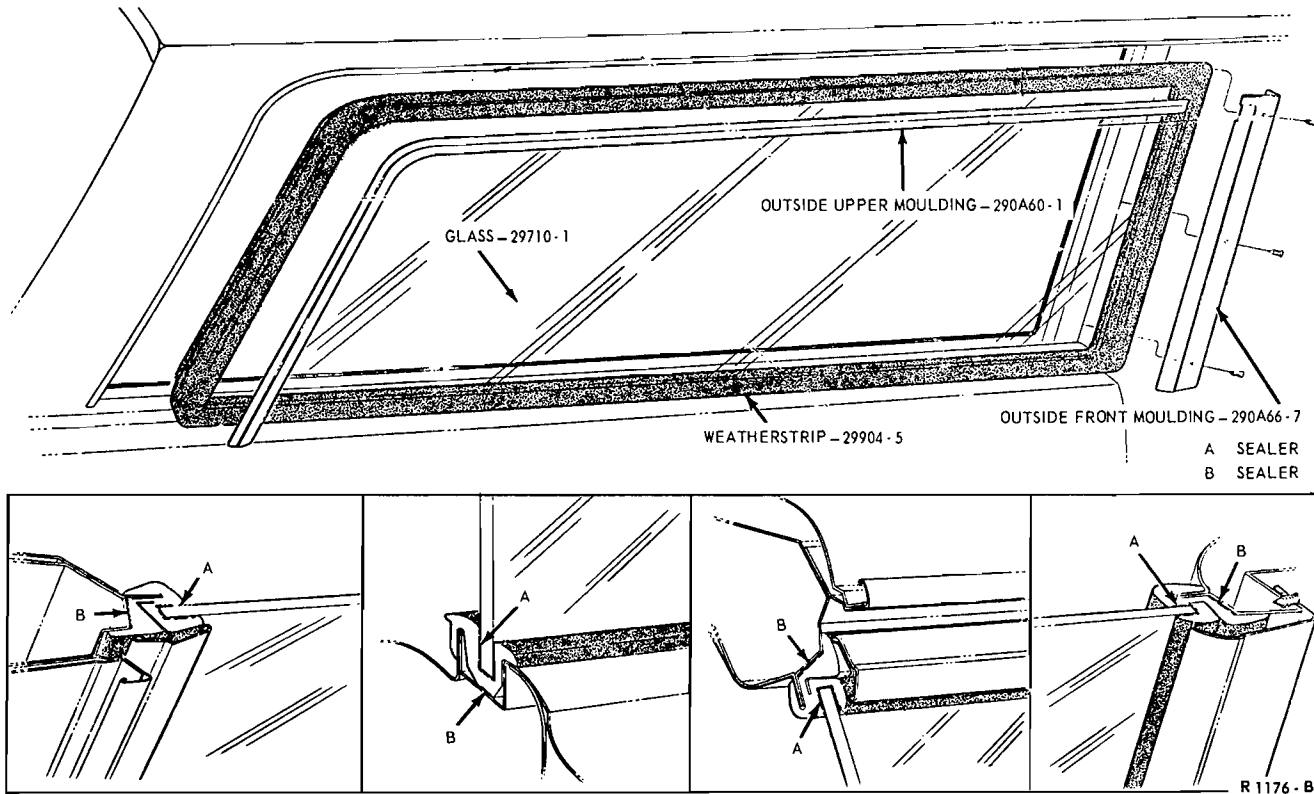

FIG. 21—Stationary Rear Quarter Window—Models 71
4. Remove the quarter window outside front moulding (Fig. 21).
6. Install the outside front moulding retaining screws (Fig. 21).